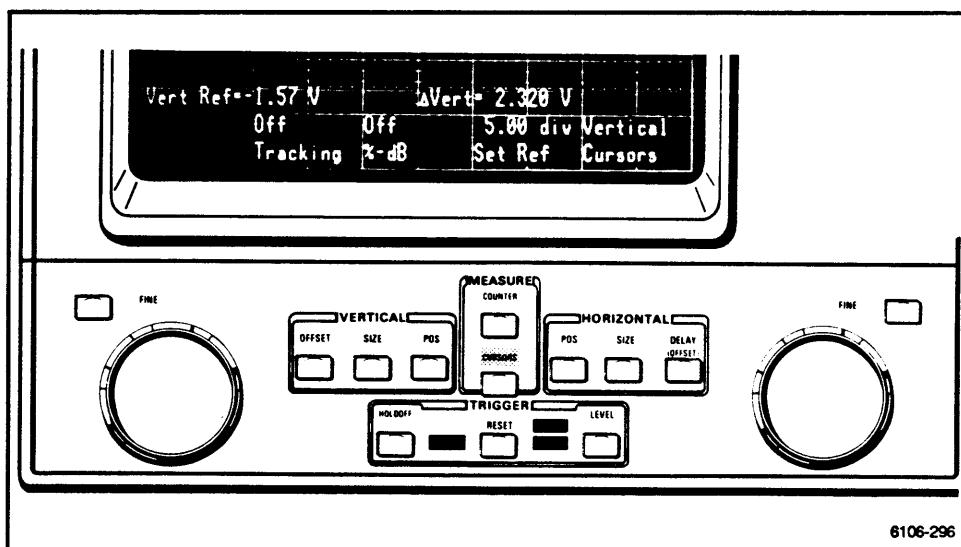

Figure 2-97. CURSORS menu after selecting vertical cursors.
4. Press the CURSOR button and select **Vertical Cursors** from the menu. Make sure that **% dB** and **Tracking** are Off. (See Fig. 2-97.)